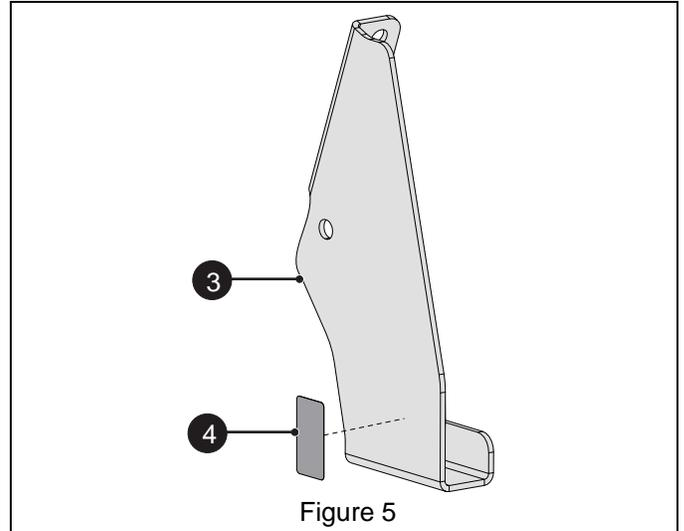

Figure 5
5. Clean surface thoroughly and attach one transmission disconnect decal (item 4) to left-side support bracket (item 3). See Figure 5.